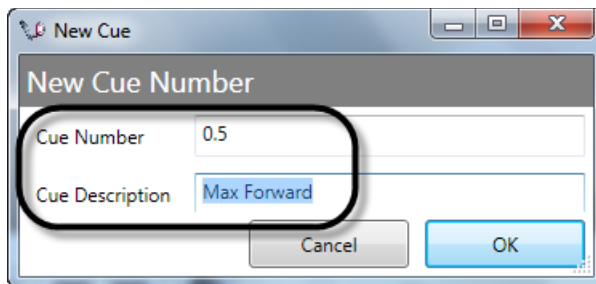

Figure 90
2. Enter a **Cue Number** and a **Cue Description** in the **New Cue** dialog box and click **OK** (Figure 90).